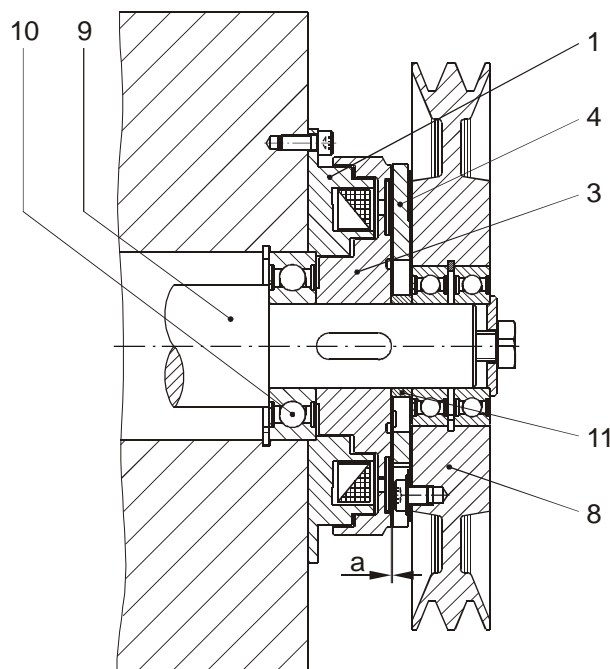
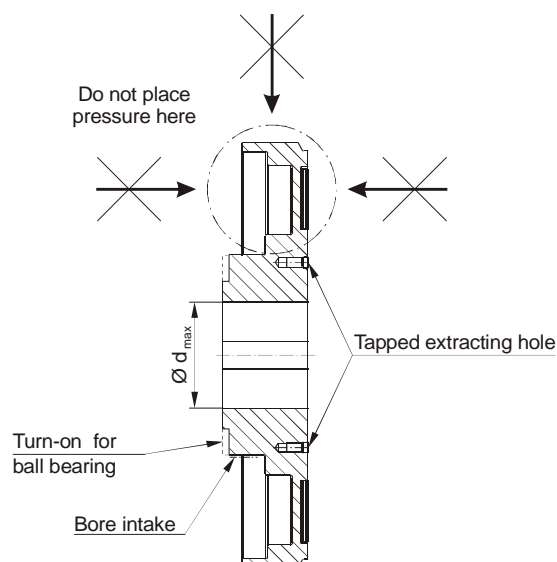

Fig. 3
Fig. 2
Installation Example 1 (Fig. 3)
Boring the rotor hub (Fig. 2)
The rotor (3) must not be bent during boring. Do not place pressure on the outer, thin-walled rotor area, see Fig. 2.
- Centred by a ball bearing (10), Figs. 3/4.
- Do not place pressure on the outer area of the rotor (3) (Fig. 2).
The rotor (3) must be secured axially in operation, see Installation Examples Figs. 3 and 4.
- 4.1. Adjust the air gap "a" according to Table 1 and Figs. 3/4.
- 4.2. Secure the mounting part or flange hub (7) axially backlash-free.
Axial backlash changes the air gap "a" and can lead to the rotor (3) running against the armature disk (4) (see Installation Examples Figs. 3 and 4).
Rotor De-installation (Fig. 2 / Page 6)
If the coil carrier (1 / 2) is centred on the inner diameter "Z" using a ball bearing (Fig. 3), the rotor hub (3) must be turned-on to the facing side.
- Turn the rotor (3) free on the hub facing side, see Fig. 2. The hub facing side must only lie against the ball bearing inner ring (10) (see Installation Examples Figs. 3 and 4).